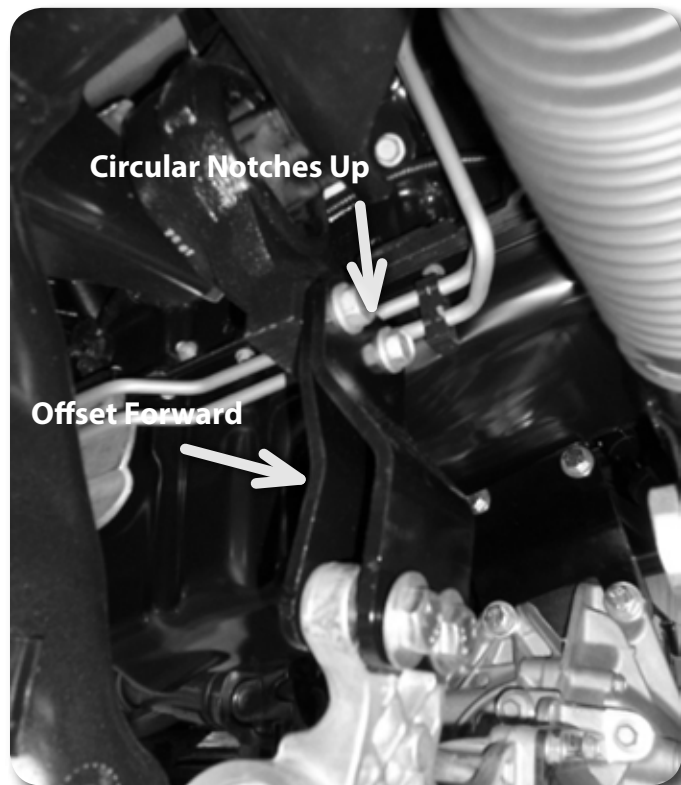

Figure. 12
33. Install the provided passenger side differential drop brackets to the original frame mount with factory hardware. Both brackets should be installed so the circular notch is up and the brackets offset forward as shown. The bracket with the larger offset will be in front. Leave hardware loose. Figure. 12